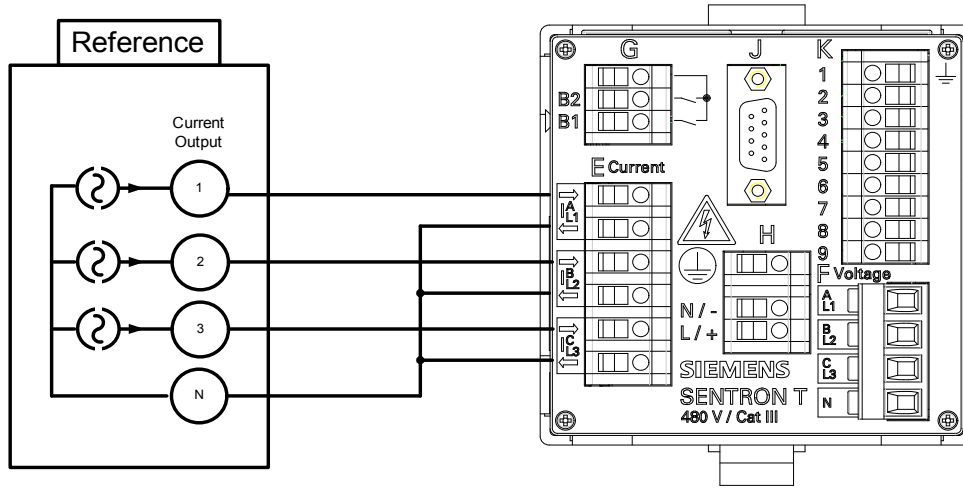

Fig. 10-4 Measurement Setup for Calibrating the AC Current Measuring Range
Calibration is only possible with symmetrical phases (3 x 120°), see figure 10-4.
- ❖ Set up the measurement as shown in figure 10-4.